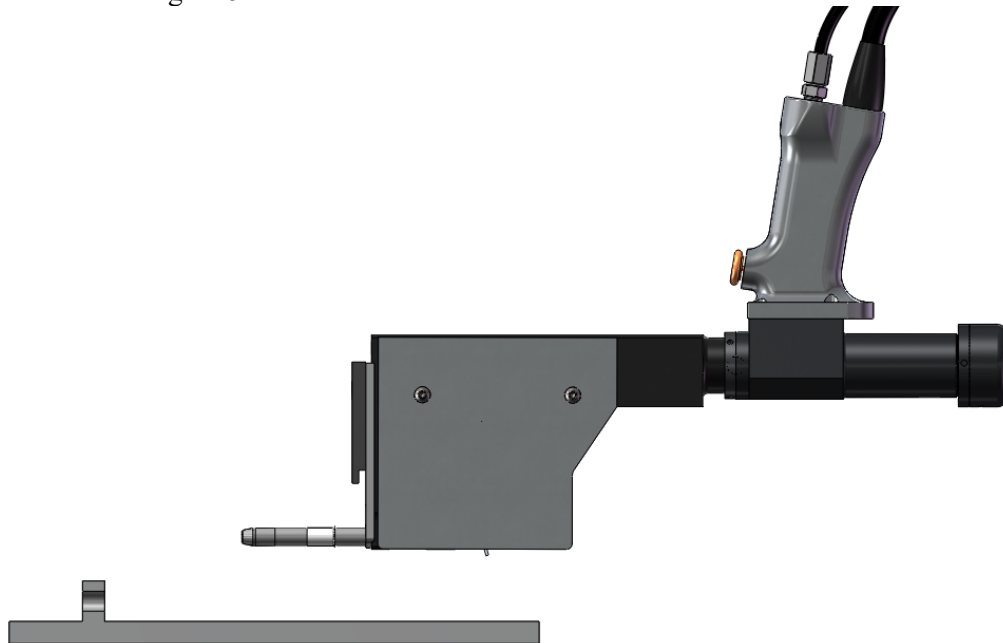

Figure 5-2
3. Select and install the sleeve on the mandrel with the flare towards the nose cap. Insert the mandrel and sleeve into the hole, as shown in Figure 5-2.